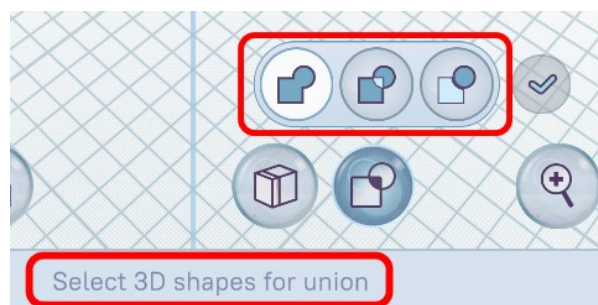

Figure 104 – Tool settings panel and tooltips
The **Boolean Operations** tool is activated by the **Boolean Operations** button  on the control panel. A tool settings panel appears above the button (Figure 104), which contains three buttons for selecting a specific operation:
While the **Boolean Operations** tool is enabled (the button is active: ) , tooltips are displayed below the control panel (Figure 104).
- 1) Press the **Boolean Operations**  button on the control panel (Figure 28). A tool settings panel will appear above the button, and tooltips will be displayed in the properties panel, below the control panel (Figure 104).